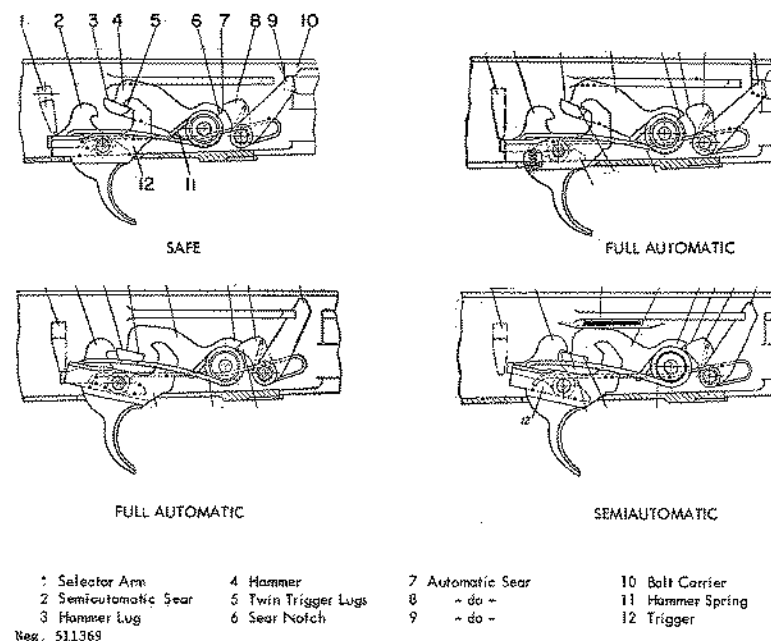

Figure 70. AK-47 trigger mechanism.
e. The selector controls the functioning of the trigger mechanism by causing its arm inside the receiver to change positions, in relation to the trigger, as the selector is moved. The automatic sear (fig 70), which also holds the hammer cocked, is not affected by the selector in any way, but is operated solely by the bolt carrier. A projection on the rear of the bolt carrier above the bolt spindle prevents the hammer from striking the firing pin unless the bolt carrier has moved sufficiently forward to lock the bolt to the receiver.
f. When the selector is in its lowest (semiautomatic) position, the arm of the selector moves to its rearmost position (fig 70) and has no effect on the trigger mechanism. As the trigger is pressed, the twin lugs on the trigger disengage from the hammer,
g. By moving the selector to its middle (automatic fire) position, the arm inside the receiver is positioned over the tail of the semiautomatic sear (fig 70). As the trigger is pressed, the semiautomatic sear contacts the arm and is rocked rearward; it then cannot catch the hammer. Only the automatic sear holds the hammer cocked, and, as the carrier in its final travel depresses the automatic sear and releases the hammer, the weapon fires. This action continues as long as the trigger is held depressed and ammunition is present. To stop firing, the trigger is released and its twin lugs intercept the hammer and hold it cocked.
h. As the selector is moved to its upper (safe) position (fig 70), the arm moves over the rear of the trigger and blocks any trigger movement. If the hammer is uncocked, interference between the hammer and the twin lugs of the locked trigger prevents full retraction of the bolt.